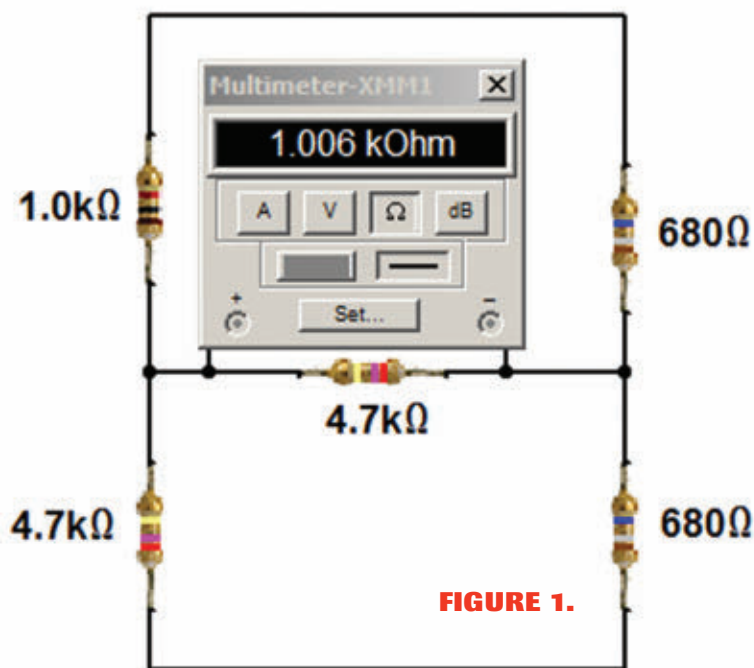

FIGURE 1.
In the resistor bridge circuit in **Figure 1**, you can see that the center $4.7\text{ k}\Omega$ resistor reads just $1\text{ k}\Omega$ because of the parallel current paths.
Have a look at **Figure 1**; this is a simplified schematic of the matrix keypad connections. Note that the column lines are pulled down to ground; this is important — we don't want to leave these floating. The rows are attached
■ FIGURE 1. Keypad circuit.